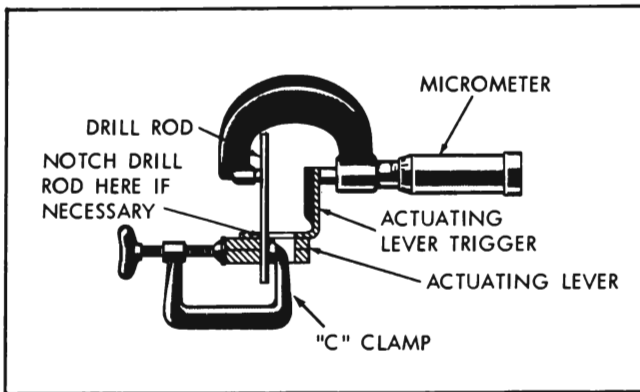

Figure 9-37—Checking Lever Trigger Position
1. Check actuating lever trigger position as shown in Figure 9-37. Drill rod, when clamped as shown, must be perpendicular to flat side of actuating lever and tight against side of slot. Notch drill rod if required to maintain squareness. Measure the trigger position as shown in Figure 9-37. Micrometer reading should be 0.950 inches plus or minus 0.005 inches. If the micrometer reading is not within these limits, bend the trigger to the correct position or replace the actuating lever.